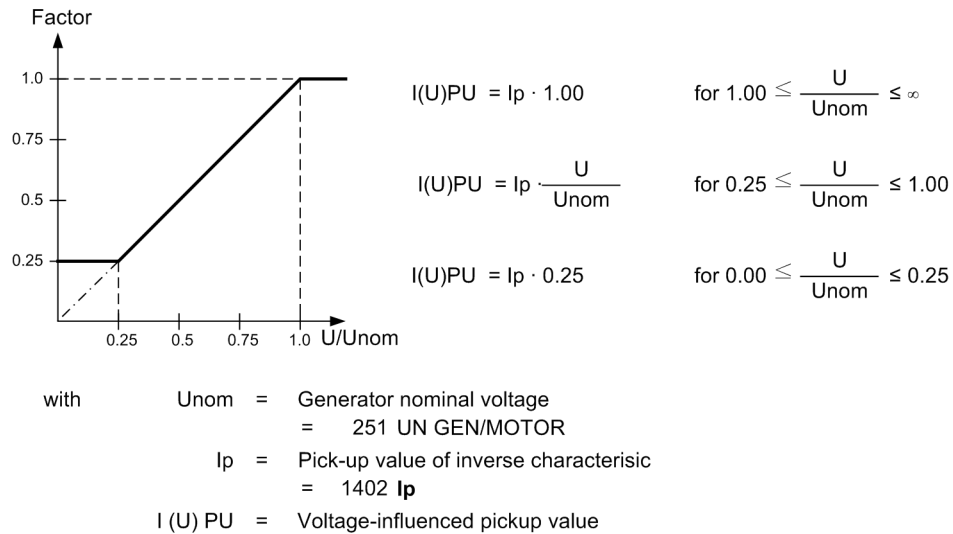

Figure 2-16 Pick-up Value Voltage Dependency
- **Voltage restraint:** The pickup threshold of the overcurrent stage depends on the voltage level. A lower voltage reduces the current pick-up value (see Figure 2-16). A linear, directly proportional dependency is realized in the zone between $U/U_{\text{Nom}} = 1.00$ and 0.25 .